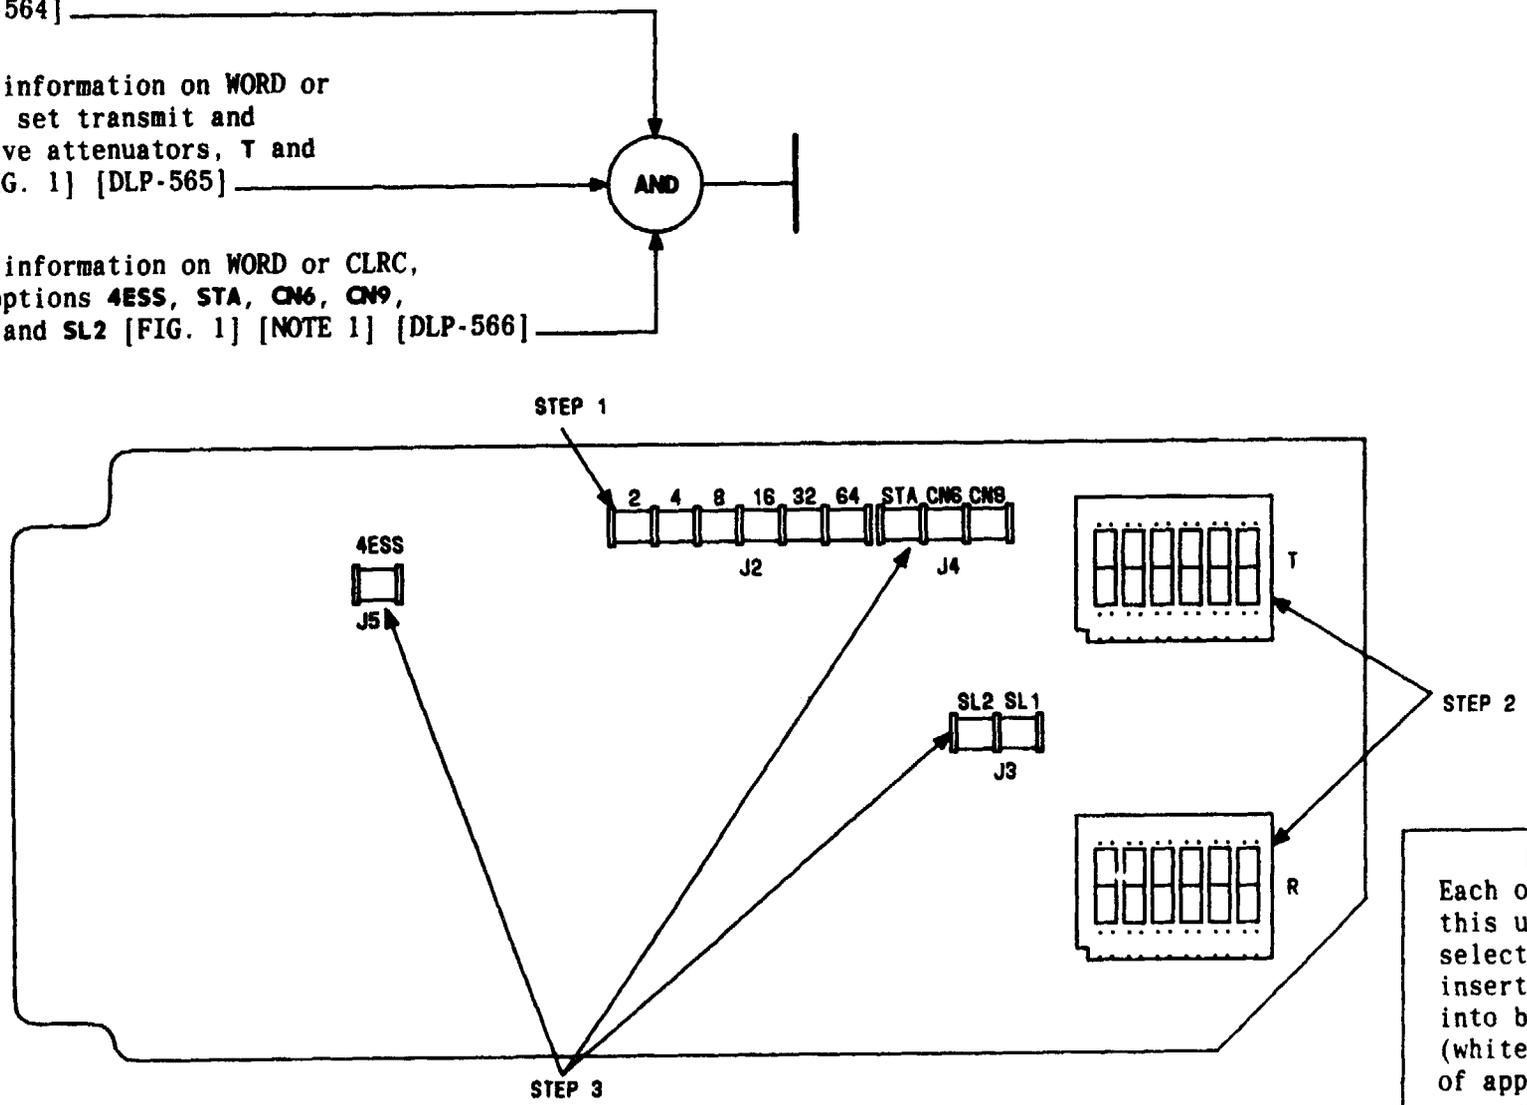

FIG. 1
- [2] From information on WORD or CLRC, set transmit and receive attenuators, T and R [FIG. 1] [DLP-565]
- [3] From information on WORD or CLRC, set options 4ESS, STA, CN6, CN9, SL1, and SL2 [FIG. 1] [NOTE 1] [DLP-566]